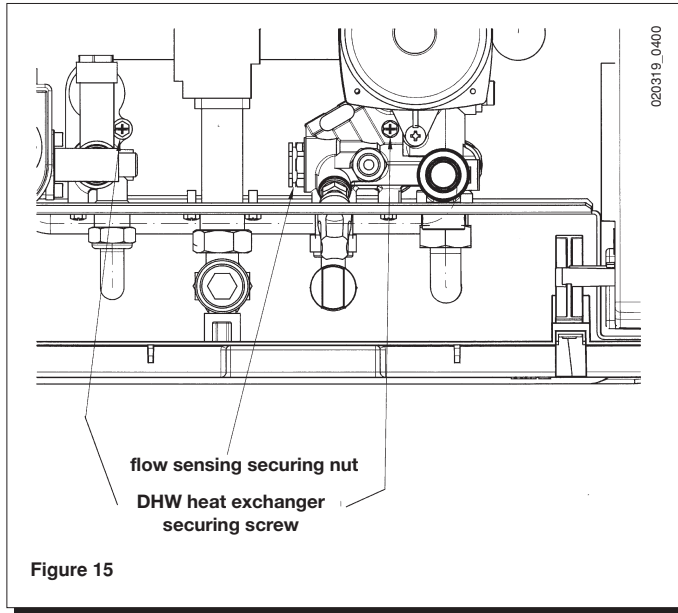

Figure 15
- remove the two screws (right in front of you) securing the DHW heat exchanger and pull it off its seat (Figure 15).
- unscrew the nut on the flow sensing assembly (Figure 15);